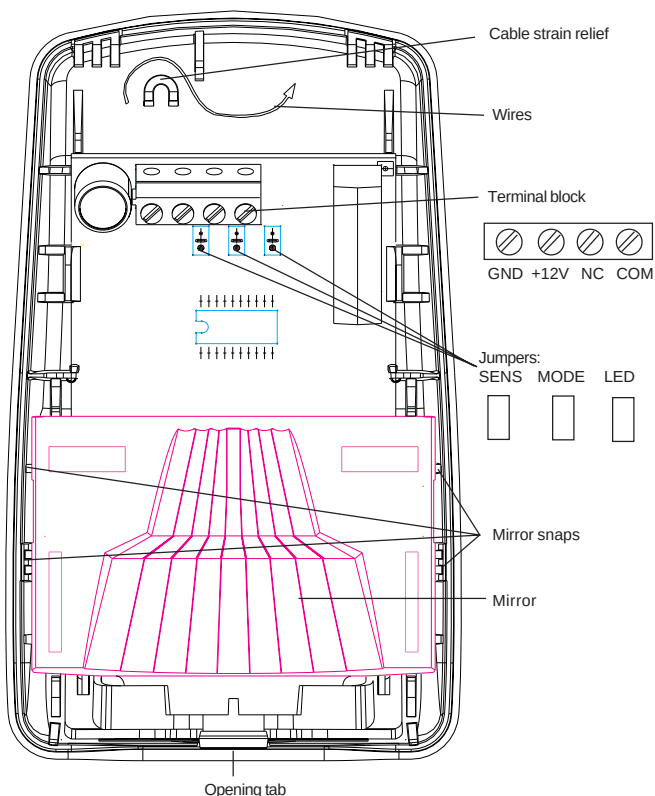

Figure 3. Front housing interior
1. Separate the front housing from the back housing by pressing in on the opening tab at the bottom of the unit with a small, flat-bladed screwdriver. See Figure 3.
7. Insert each wire into the appropriate terminal and tighten screws. Push the wires into the strain relief. See Figure 3.
Remove the mirror by inserting a small screwdriver between the mirror and the side of the front housing and gently prying the mirror out. Do not pry from the end of the housing because the mirror may be scratched. See Figure 3.
After selecting the coverage pattern, snap the mirror back into the front housing by pushing the mirror down into the mirror snaps (see Figure 3). Then rotate the mirror down toward the front housing until it snaps into position.
The unit provides three jumpers to set sensitivity, mode, and the LED. See Figure 3.